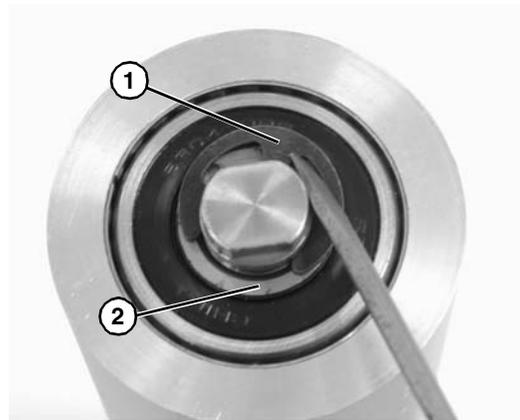

Figure 77
- Remove the pulley shaft assembly: remove the clip ring (**Figure 77, item 1**) and washer (**Figure 77, item 2**) from one side of the pulley assembly.